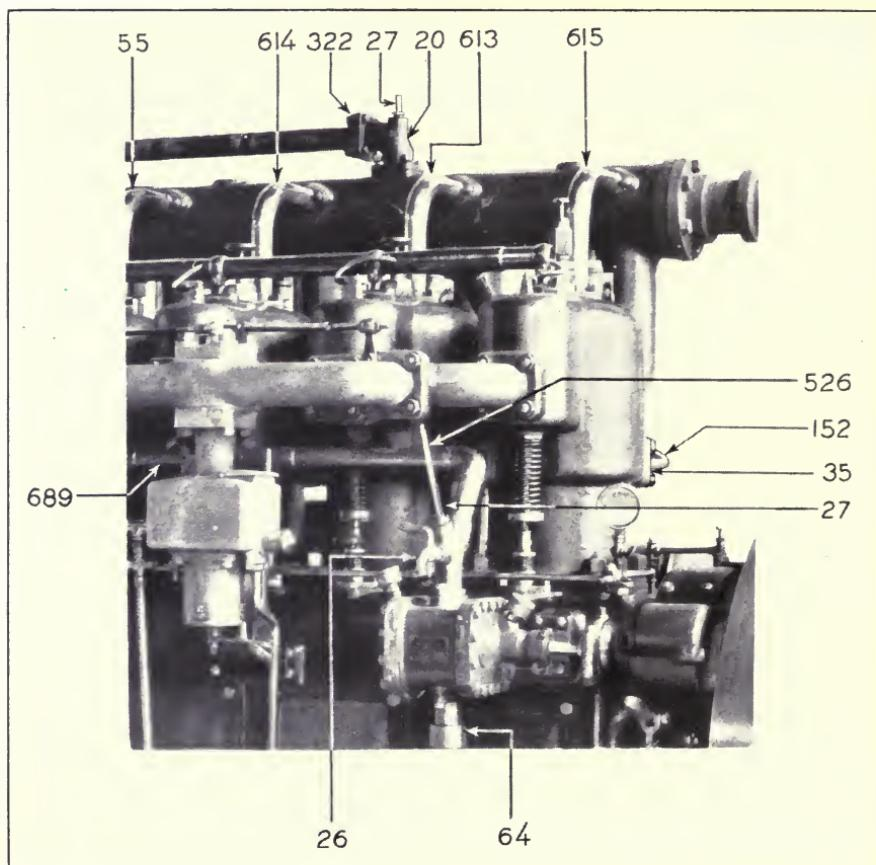

Fig. 36.
**47a. Parts of cooling water system on engine, not including Pumps. (See Fig. 36.)**